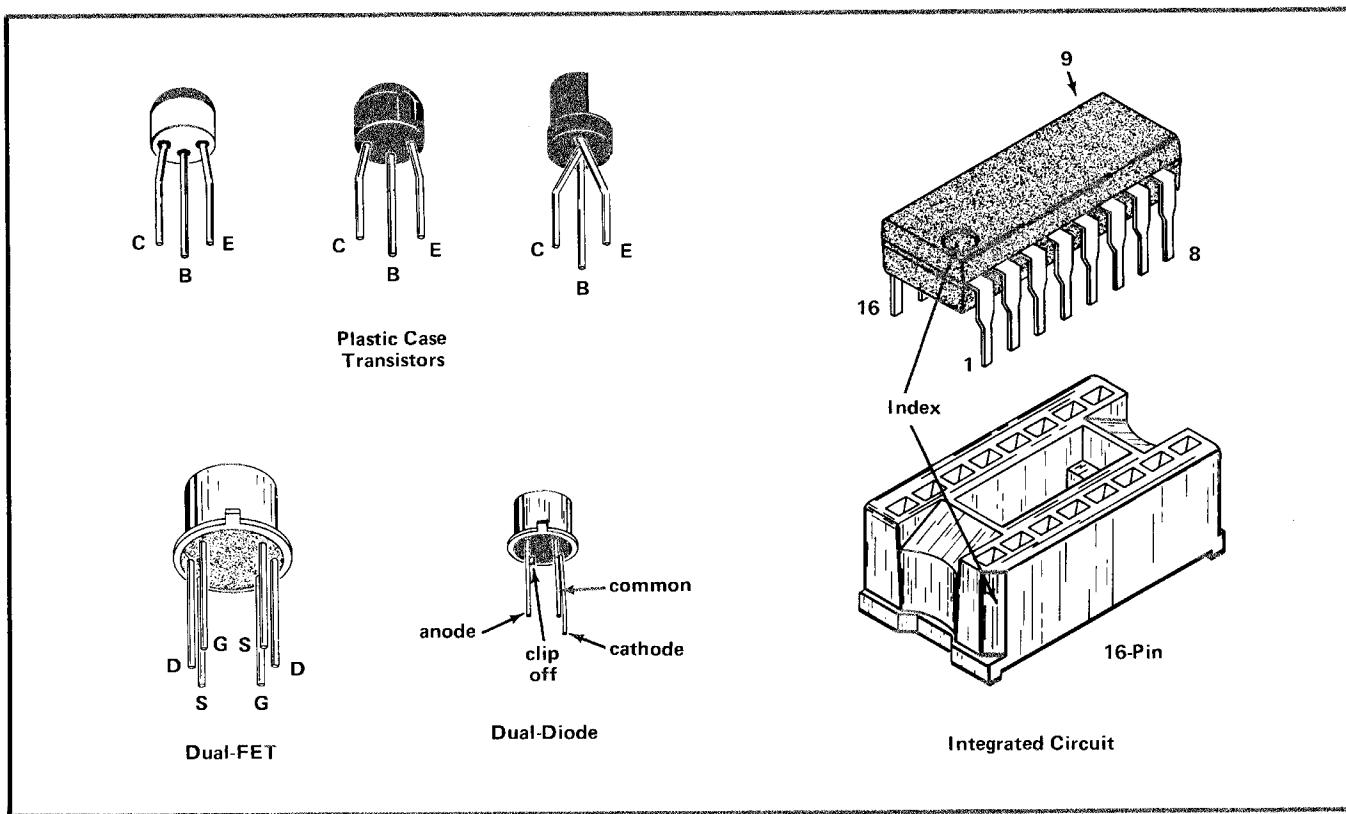

Fig. 4-1. Electrode configuration for semiconductors used in this instrument.
**Semiconductor Lead Configuration.** Fig. 4-1 shows the lead configuration of the semiconductor devices used in this instrument.
A. TRANSISTORS AND INTEGRATED CIRCUITS. The best check of transistor and integrated circuit operation is actual performance under operating conditions. If a transistor or integrated circuit is suspected of being defective, it can best be checked by substituting a component known to be good; however, be sure that circuit conditions are not such that a replacement might also be damaged. If substitute transistors are not available, use a dynamic tester (such as Tektronix Type 576). Static-type testers may be used, but since they do not check operation under simulated operating conditions some defects may go unnoticed. Fig. 4-1 shows base pin and socket arrangements of semiconductor devices. Be sure the power is off before attempting to remove or replace any transistor or integrated circuit.